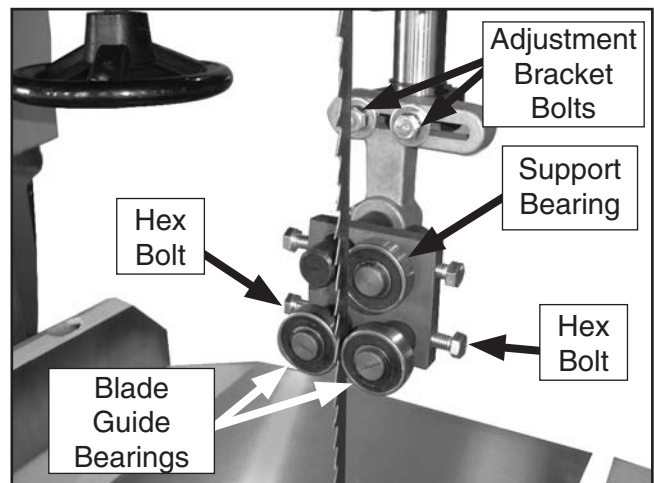
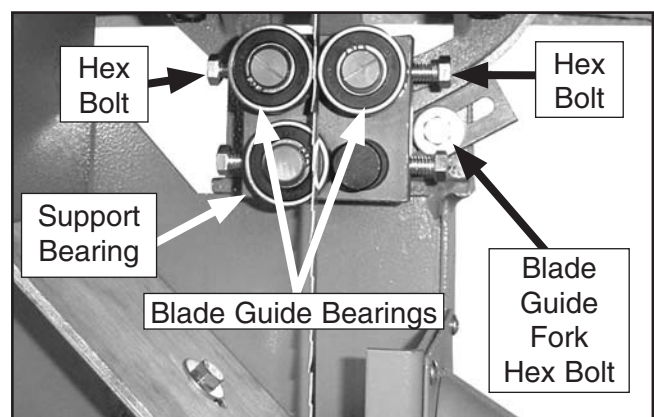

Figure 26. Upper blade guide controls.
Figure 27. Lower blade guide controls.
3. Familiarize yourself with the blade guide controls shown in **Figure 26** and **Figure 27**.
10. Loosen the hex bolt securing the blade guide fork (**Figure 27**).